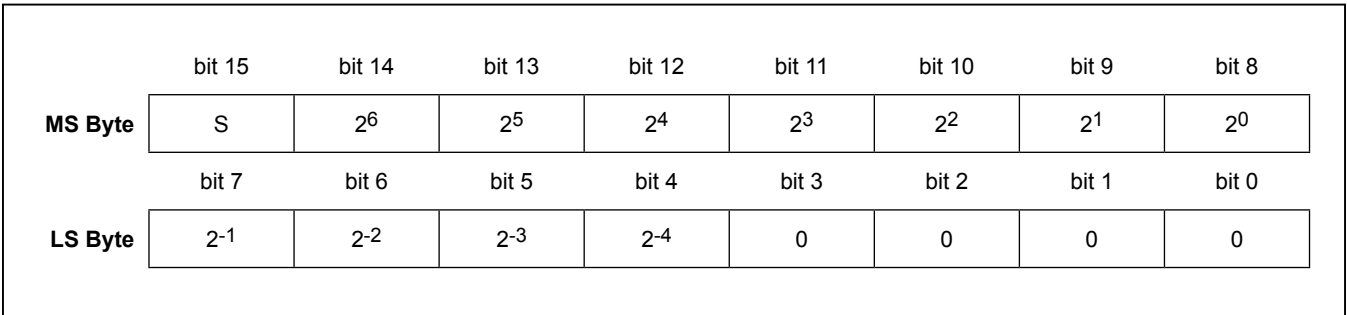

Figure 3. Temperature, TOS, and THYST Register Format
After each temperature measurement and analog-to-digital conversion, the DS75LV stores the temperature as a 16-bit two's complement number in the 2-byte temperature register (see Figure 3). The sign bit (S) indicates if the temperature is positive or negative: for positive numbers S = 0 and for negative numbers S = 1. The most recently converted digital measurement can be read from the temperature register at any time. Since temperature conversions are performed in the background, reading the temperature register does not affect the operation in progress.
The data format of the  $T_{OS}$  and  $T_{HYST}$  registers is identical to that of the temperature register (see Figure 3), i.e., a 2-byte two's complement representation of the trip-point temperature in degrees centigrade with bits 3 through 0 hardwired to 0. After every temperature conversion, the measurement is compared to the values stored in the  $T_{OS}$